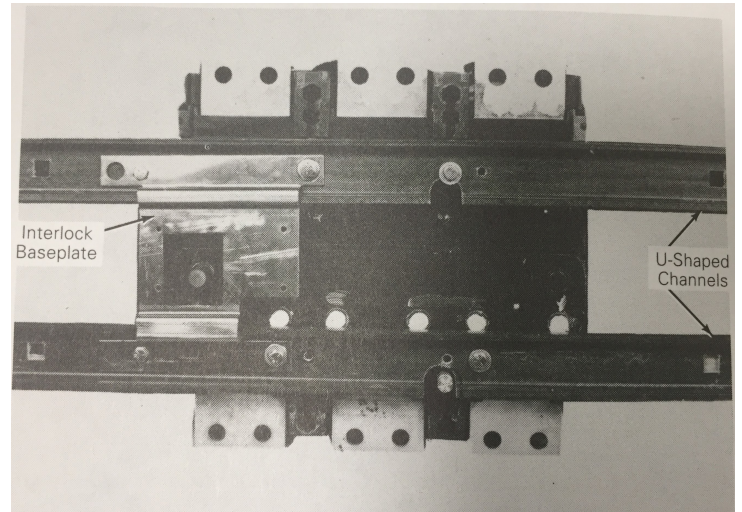

Figure 5 U-shaped channels and interlock baseplate
4. Mount the two U-shaped channels to the rear of the breaker with two 1/4-20 hex-head screws, flat washers, and lock washers each, as shown in Figure 5. Do not tighten the screws at this point. Position the cutout in the lower channel over the trip plunger.
5. Install the baseplate over the channels, using the left channel mounting screws and two additional 1/4-20 hex-head screws, nuts, flat and lock washers, as shown in Figure 5. Tighten all screws to 20 in-lb.